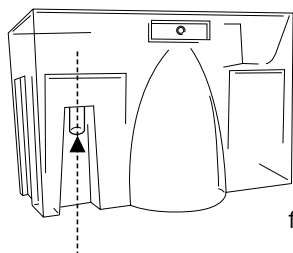

fig. 2
- 2) Drill the inside of the drain spout using a narrow drill bit. Fig. 2.